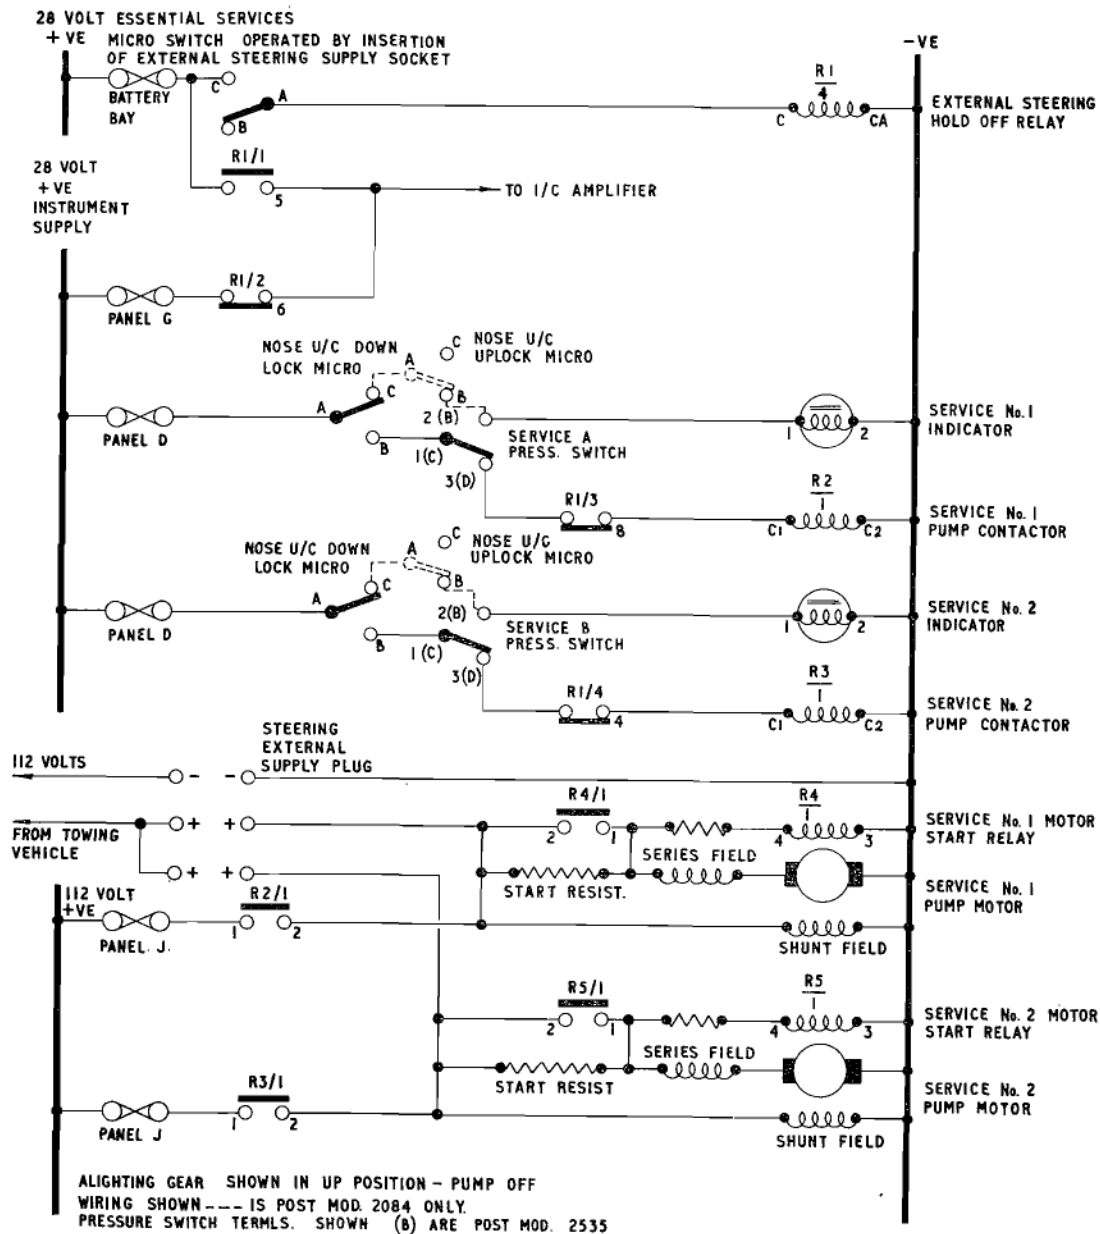

Fig. 8. Nosewheel steering and mainwheel brake pump control
**NOSEWHEEL STEERING AND MAINWHEEL BRAKES AND PUMP CONTROL (fig. 8)**